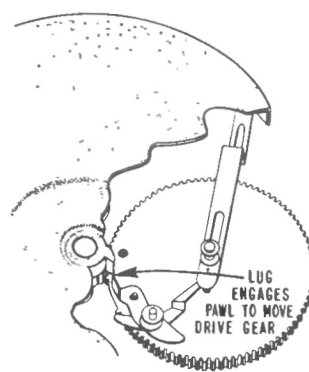

Figure 4B. Position of Drive Gear During Change Cycle.
This rapid movement only occurs when the trip slider (49) is moved rapidly, by the tone arm, as the needle enters the trip grooves of the record. The gear engagement pawl (46) then moves in front of and engages the lug on the turntable hub. This causes the drive gear (42) to be rotated far enough so that the teeth on the drive gear will engage the teeth on the turntable hub, starting the change cycle. See figure 4B.